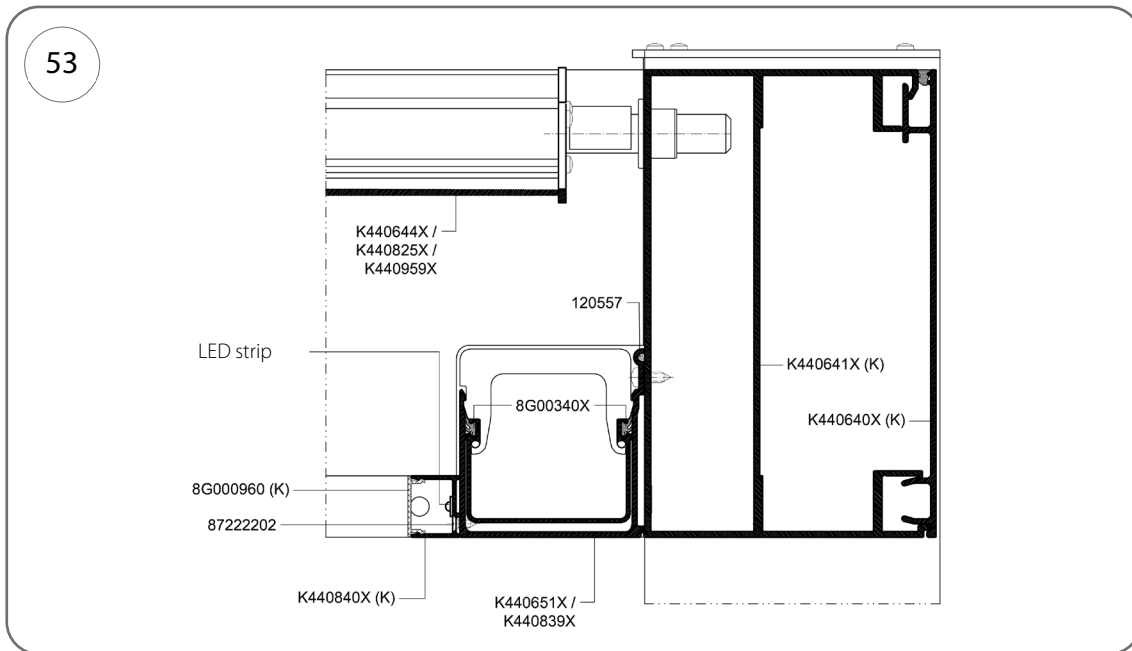
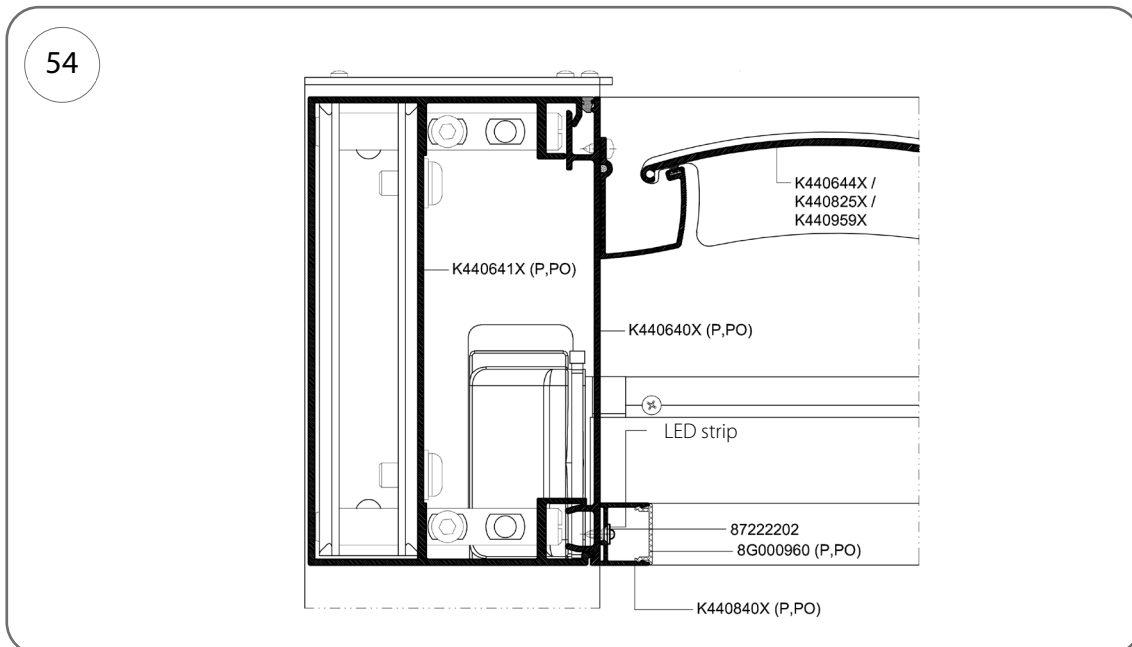

Fig. 53
Fig. 54
1. Screw the purlin cover (cat. no. K440640X) (Fig. 53) and the gutter housing (cat. no. K440651X or K440839X) (Fig. 54) the LED profile section (cat. no. K440840X) using ϕ 3.5 x 9.5 mm screws (cat. no. 87222202).